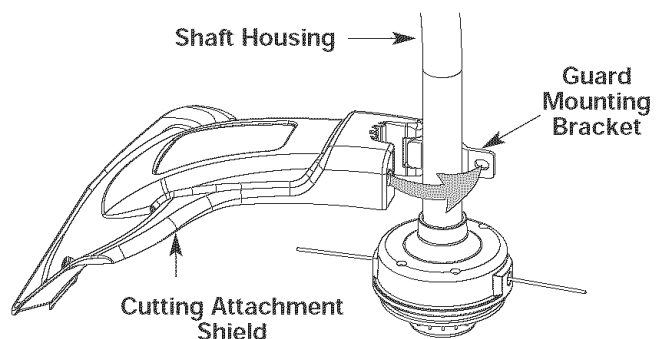

Fig. 4
1. Place the cutting attachment shield onto the shaft housing. Be sure the guard mounting bracket slides into the slot on the edge of the cutting shield. Rotate the shield into place, counterclockwise (Fig. 4). The holes in the guard mounting bracket and cutting attachment shield will line up.